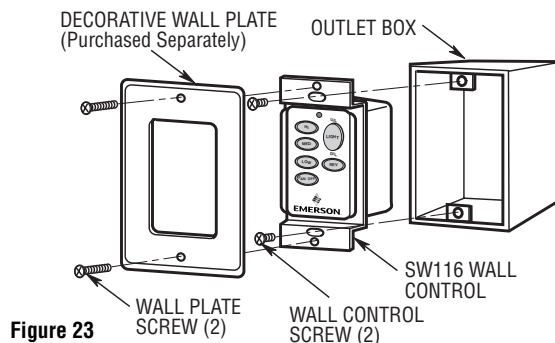

Figure 23
3. Install the wall control onto the outlet box using the supplied screws (Figure 23).
4. Install decorator wall plate (purchased separately) using the two screws provided with wall plate. Leave wall control in "OFF" mode until fan installation is completed (Figure 23).